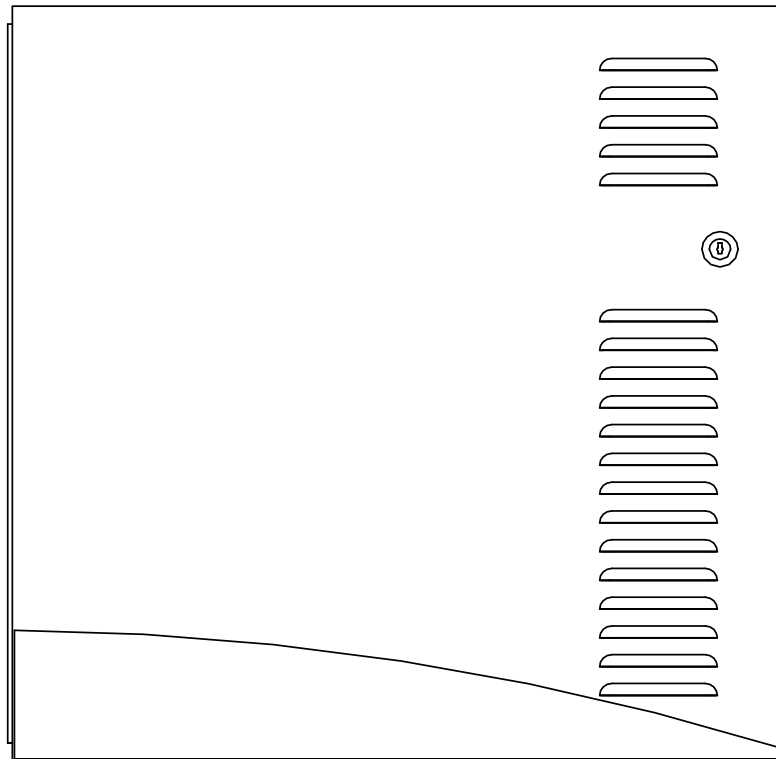

Figure 2.8.1 NetSOLO INX (Standard View)
1. Prepare the mounting site by pre-drilling four (4), #10 screws mounted to the studs, using the dimensions shown in Figure 2.8.1.1. Use four (4), #10 screws.